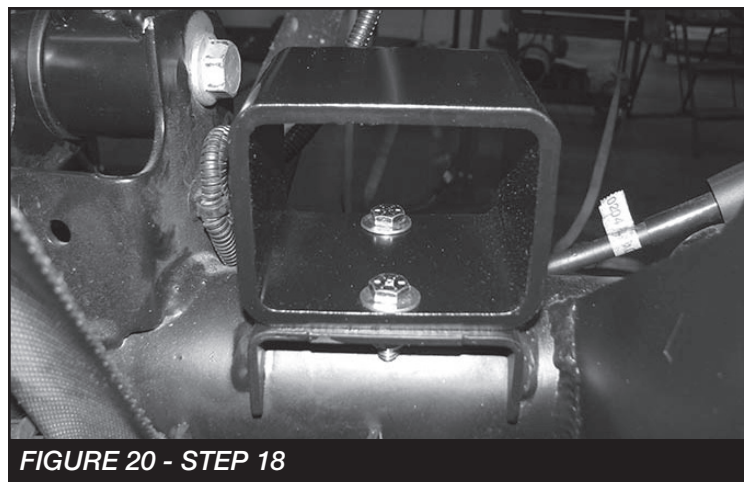

FIGURE 20 - STEP 18
18. Locate FT50724 Rear Bumpstop Spacer. Position the spacer onto the factory bumpstop pad on the axle and attach with the supplied 5/16" x 1" bolts and hardware. **SEE FIGURE 20**